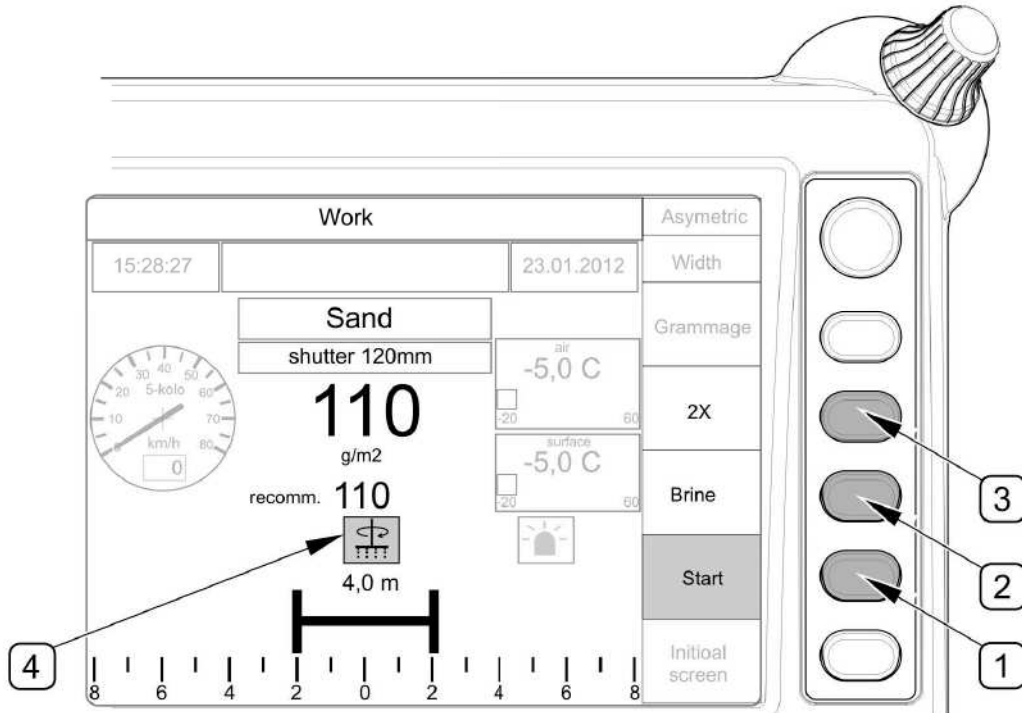

FIG. 4.28 Activation of spreading
(1) - spreading activation push-button; (2) - brine spraying activation push-button; (3) - double dose push-button; (4) - control icon of activated spreading
On control panel working page "Operation" (FIG. 4.28), activate spreading by means of push-button (1); "Start" function will be highlighted. Activation of spreading disc drive and belt conveyor is signalled by control icon (4). Brine spraying is switched on and off by means of push-button (2) "Brine". Push-button (3), marked „2X“, is used for momentary doubling of spreading material dose.